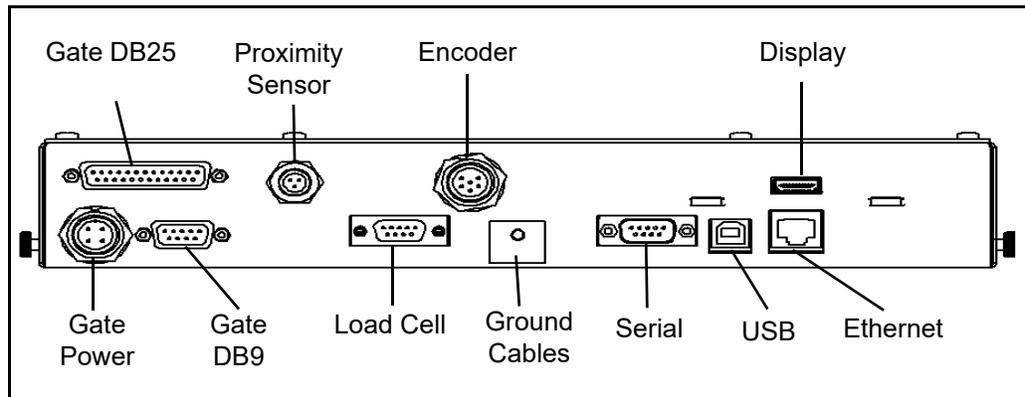

Figure 46
12. Disconnect all connectors that are attached to the controller box (refer to Figure 46 as needed), as follows: